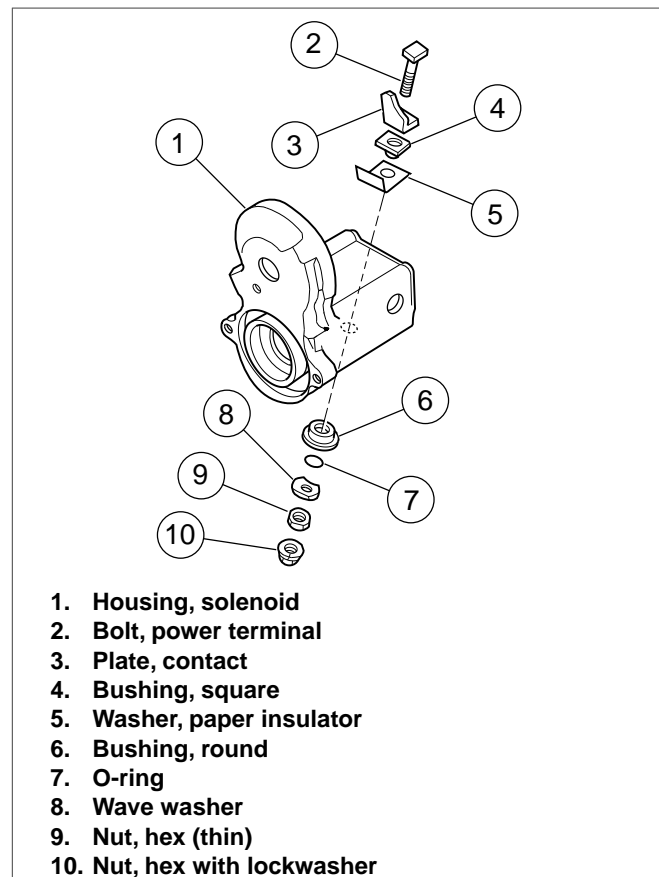

Figure 2. Power Terminal
1. See Figure 2. Remove hex nut with lockwasher (10) from copper power terminal nut (9). Remove battery cable and save for later use.
2. Remove and discard power terminal nut (9), wave washer (8), O-ring (7) and round bushing (6).
3. Push copper bolt (2), contact plate (3) and bushing (4) out of solenoid housing (1). Discard bolt, contact plate and bushing.
4. Remove and discard paper insulator washer (5).